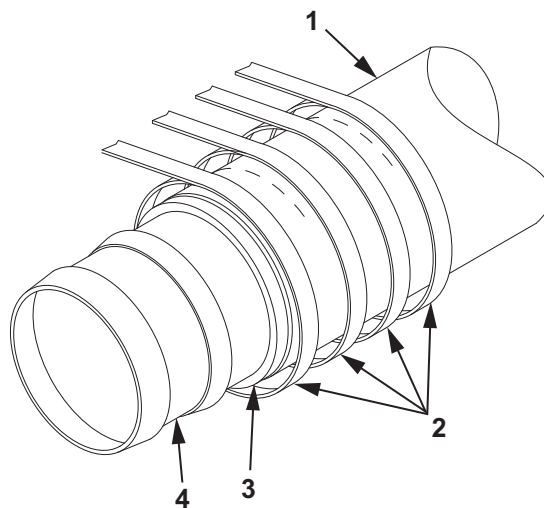

Figure 23. Hose Assembly Repair.
12. Place four clamps (Figure 23, Item 2) loosely on the hose assembly (Figure 23, Item 1) and move them back a few inches for later installation.
13. Install the hose assembly (Figure 23, Item 1) on the hose splice (Figure 23, Item 4) until it is flush with the machined stop (Figure 23, Item 3) in the center of the hose splice (Figure 23, Item 4).
14. Position all four clamps (Figure 23, Item 2) over the hose splice (Figure 23, Item 4) area.